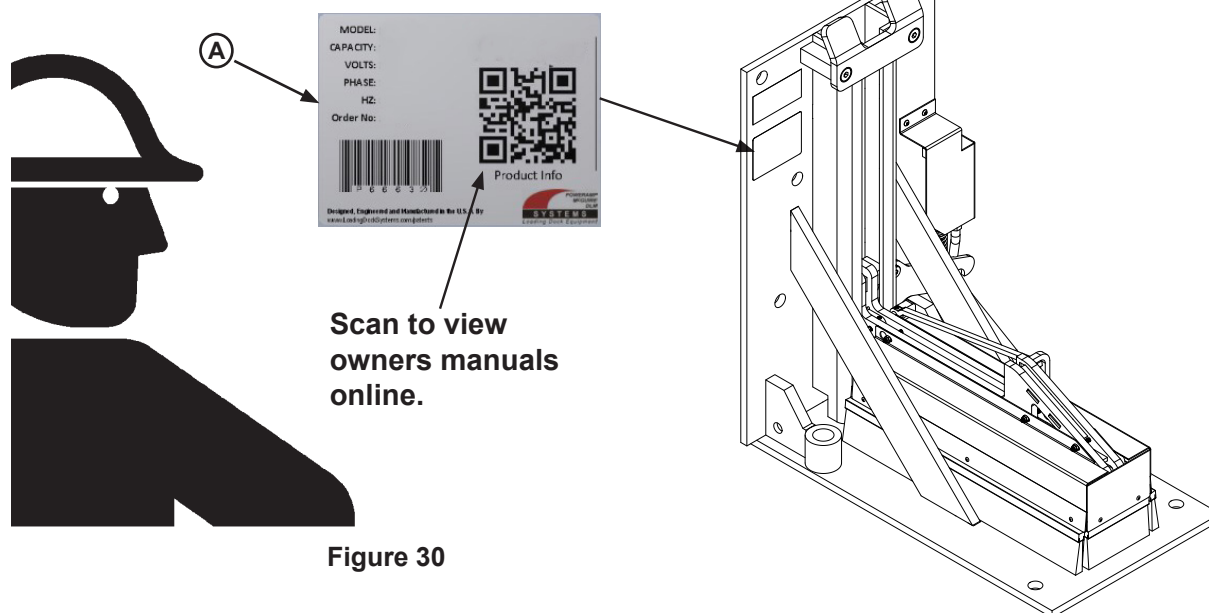

Figure 30
**NOTE:** Refer to Figure 30 for orientation of restraint and Figure 31 for example of decal.